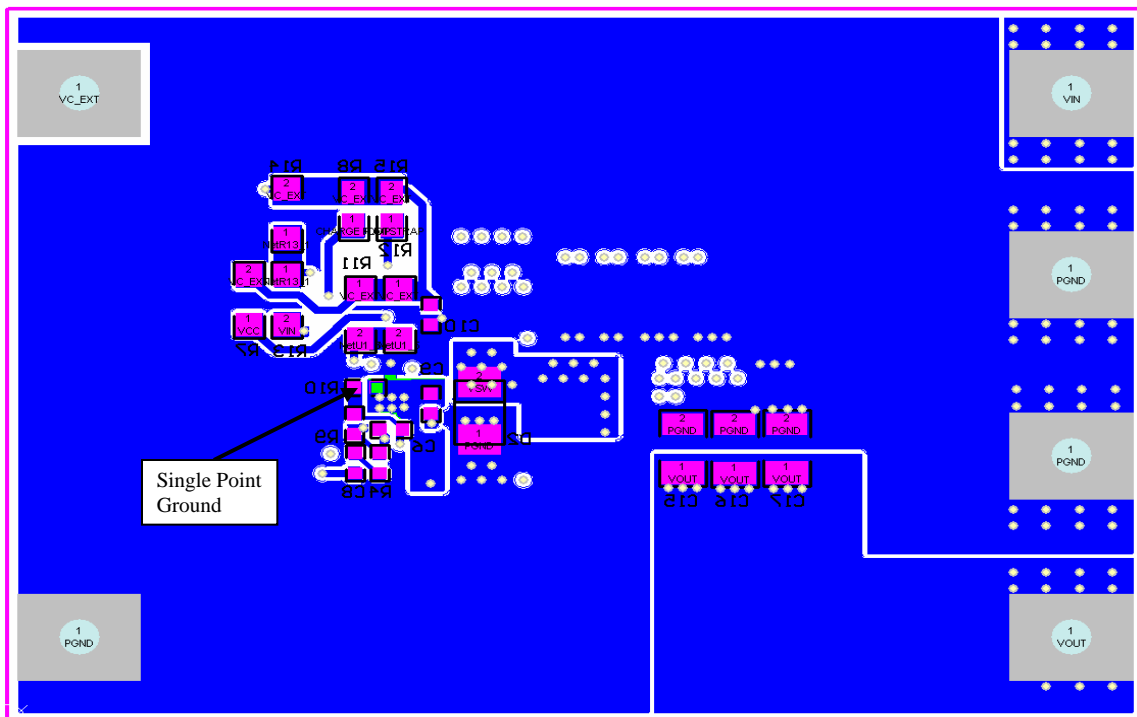

Figure 3d: IRPP3624-12A Reference Design bottom layer layout.
3. A solid ground plane is furnished in mid-layer 2. The connection of the signal ground to power ground is done at a single point in the bottom layer as shown in figure 3d.